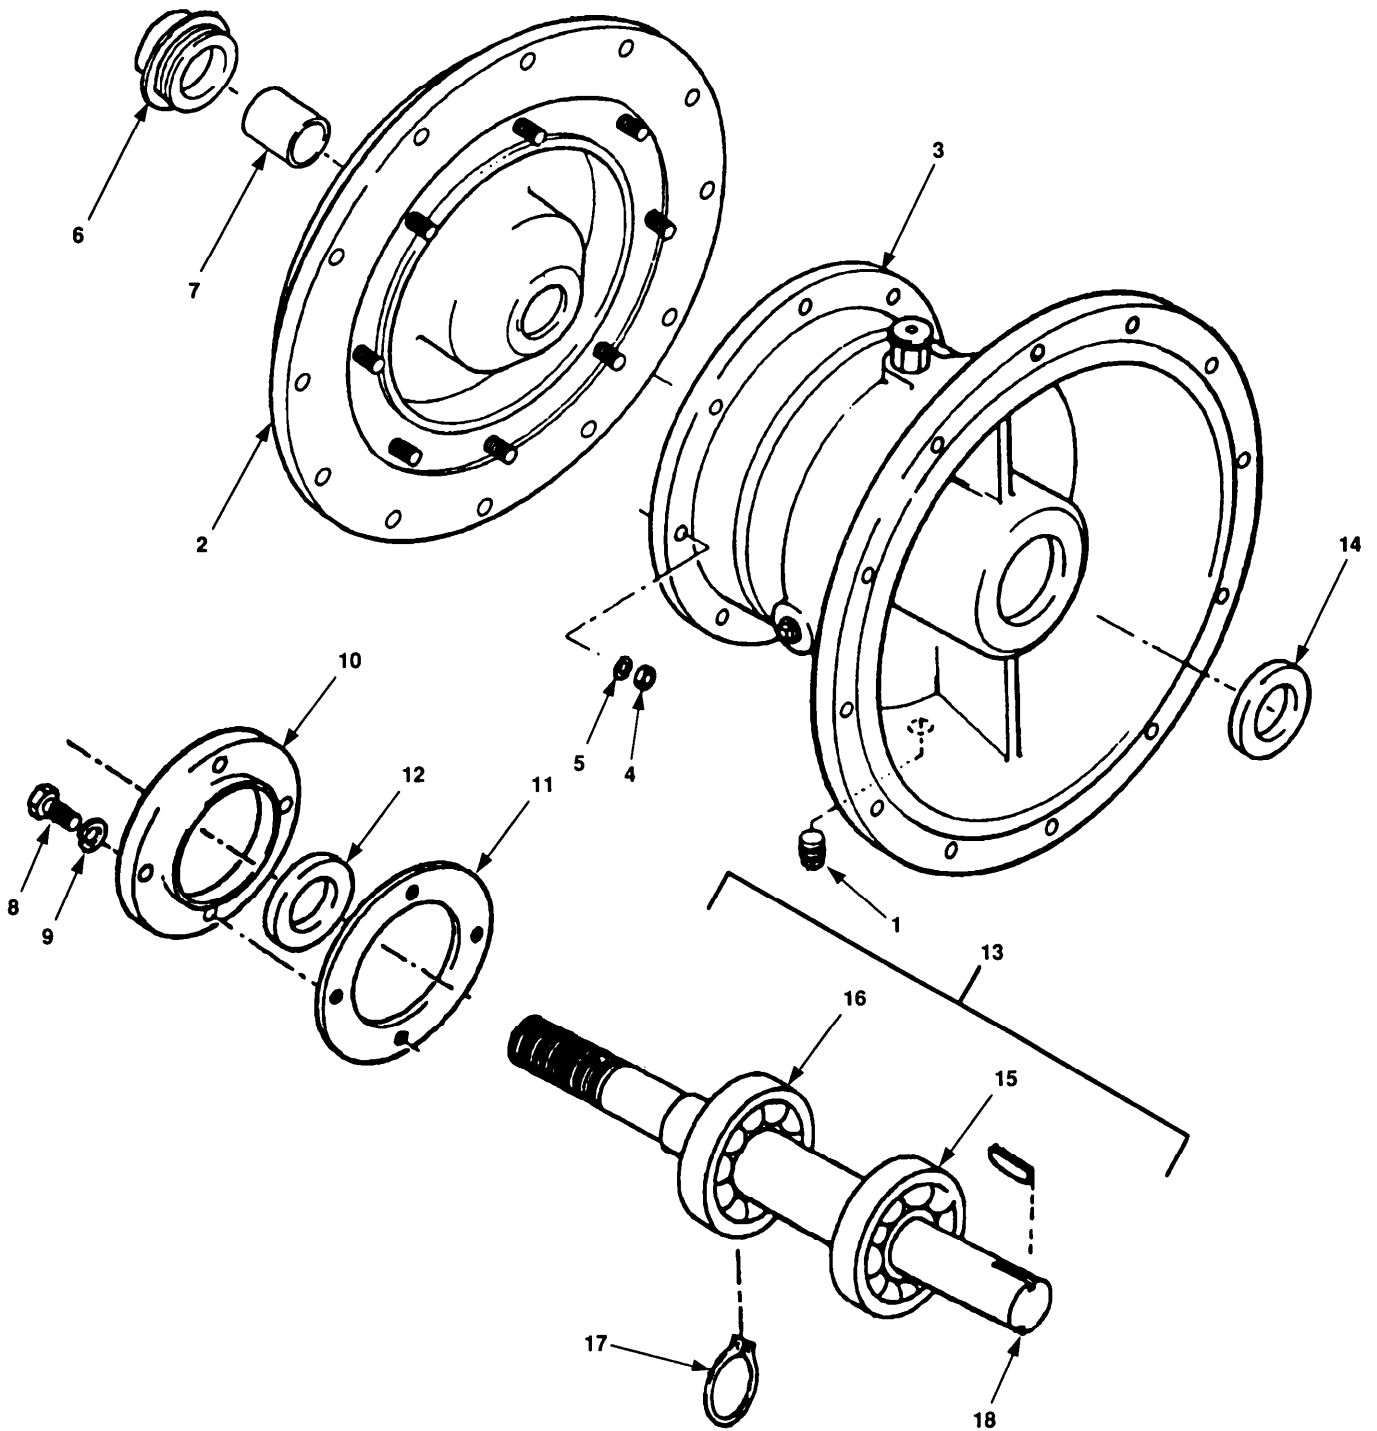

Figure 5-14. Sleeve and Rotating Assembly Maintenance.
- a. Remove oil drain plug (figure 5-14, 1) and drain oil into suitable container.
- (1) Scribe a mark across seal plate (2) and intermediate bracket (3).
- (2) Remove eight nuts (4) and lockwashers (5).
- (3) Remove seal plate (2) with rotating seal assembly (6) and sleeve (7).
- (4) Remove rotating seal assembly (6) and sleeve (7) from seal plate (2).
- (5) Apply finger pressure to push sleeve (7) out of rotating sleeve assembly (6).